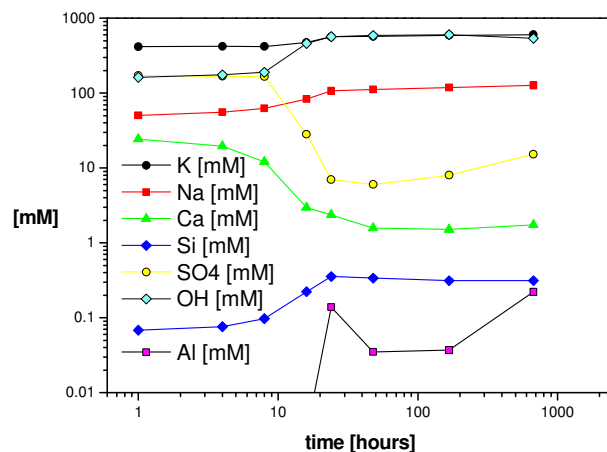

Fig. 3: Element concentrations of a Portland cement pore solution during the first 28 days.
- ➔ concentration of elements in pore solution (Fig. 3)